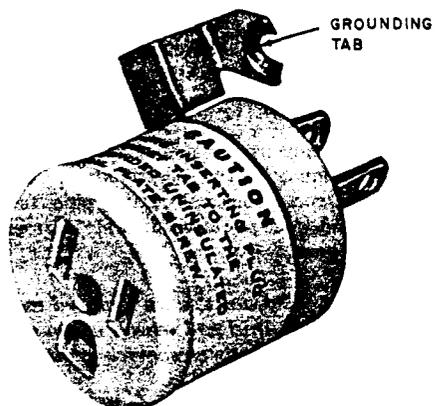

Fig. 2--Adapter
- 3.02 The adapter shown in Fig. 2 is used at a grounded convenience outlet to extend the power service ground for a 3-conductor device.
- 3.03 The grounding terminal of the adapter (Fig.2) has a green-colored rigid tab (ear, leg, or similar device) which must be turned to the center of the convenience outlet and secured to the grounded, uninsulated, metal face plate. The pigtail, wire type, adapters are now considered obsolete but may remain in service until there is a cause for replacement with the updated model.